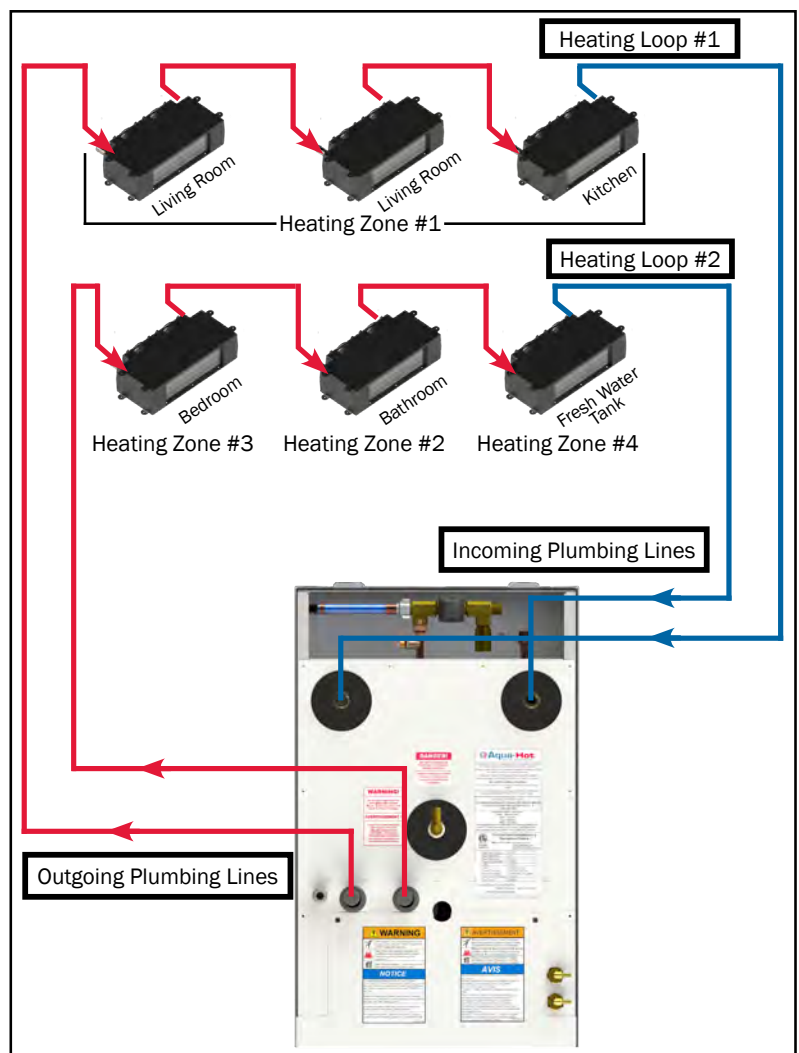

Figure 32
- See Figure 32 for reference.
NOTE: The kitchen and living room heat exchangers must be plumbed together **in-series** on "Heating Loop 1". The fresh water tank, bedroom, and bathroom heat exchangers must be plumbed together **in-series** on "Heating Loop 2". See the diagram in Figure 32.